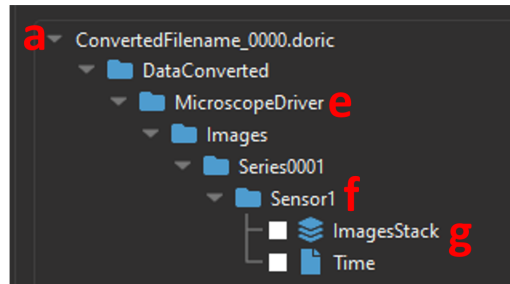

Figure 13.12: *Converted Microscope File Structure*
- a) The **Filename** displays the computer path and filename of the data file that will be converted. The **Filename** is automatically generated once the file is selected (Fig. 13.12, a).
3. The **Structure Settings** (Fig. 13.11, 3) sets the name of the nested folders containing the converted data, recapitulating the file structure of v6 .doric files. The names of the following three layers (Fig. 13.12) must be specified:
- e) The **Device Name** specifies the device type used to collect the data, as in Fig. 13.12, e.
- f) The **Sensor Name** specifies the type of sensor that was used to collect the data, such as red or green CMSO sensor, as in Fig. 13.12, f.
g) The **Dataset Name** specifies the type of data that was collected, as in Fig. 13.12, g.